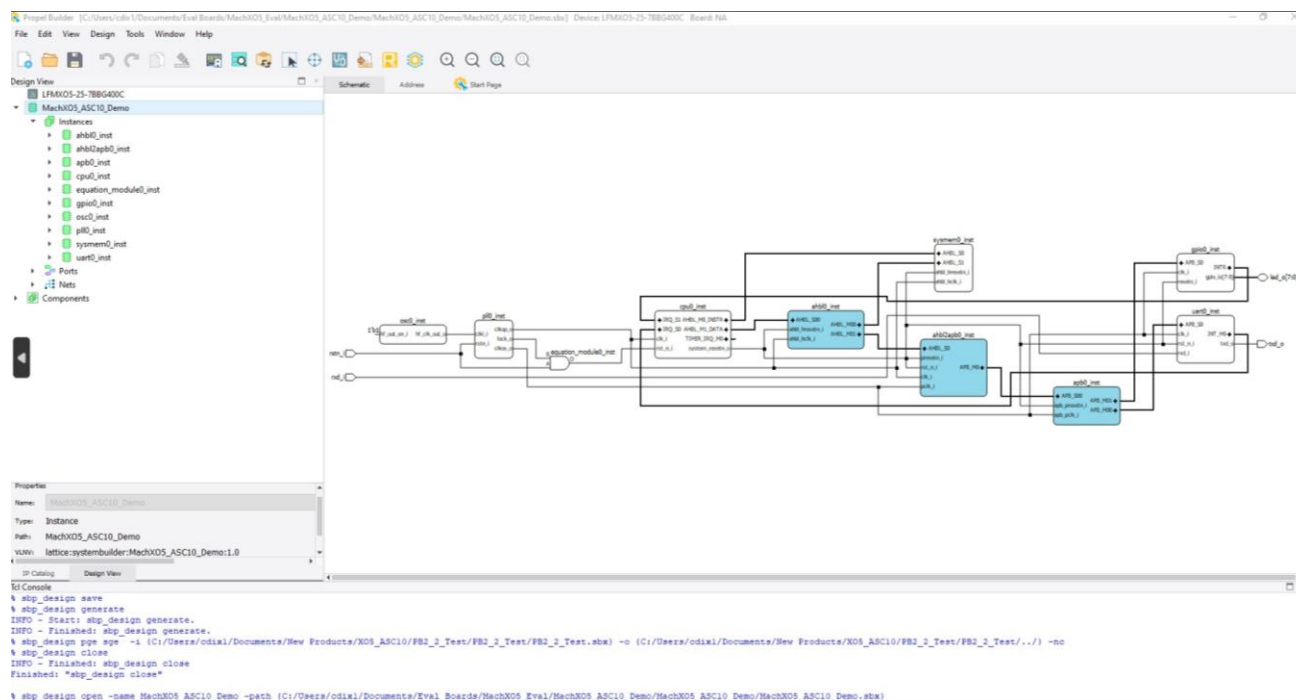

Figure 3.4. Propel Builder – Initial Schematic
- The Propel Builder will now display the SOC high-level schematic, as shown in Figure 3.4.